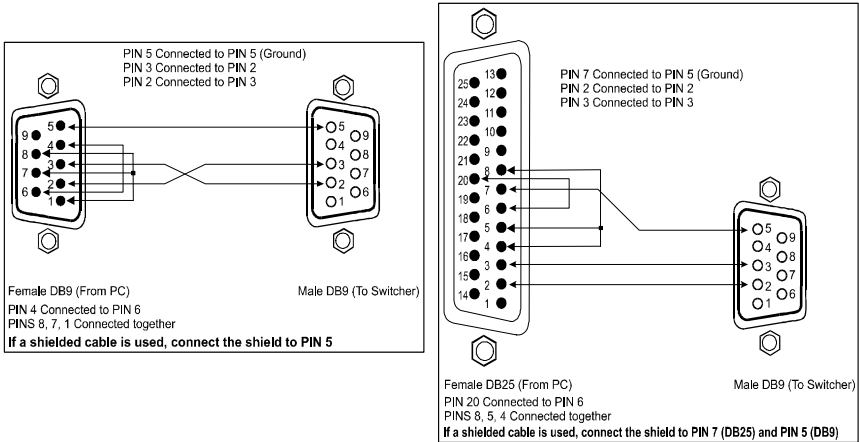

Figure 2: Connecting a PC without using a Null-modem Adapter
- Connect the RS-232 DB9 port on your PC to the RS-232 DB9 rear panel port on the **VP-23**, as Figure 2 illustrates (depending on whether the PC has a 9-pin or 25-pin connector)